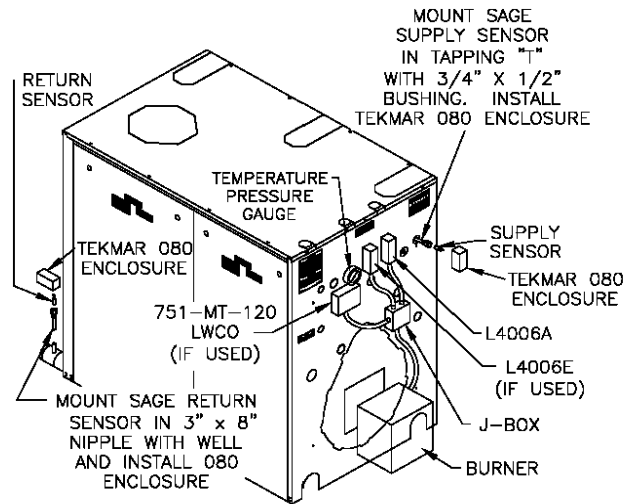

Figure 29(a): SBC2 Sensor and Well Locations
- a. Remove 3" x 8" nipple (806600463) with 1/2" coupling and thread into return tapping using thread sealant. Remove a 1/2" immersion well (80160456) from the SBC Well Parts Carton 107814-01 and thread into 1/2" coupling on 3" x 8" nipple using thread sealant. See Figure 29(a) for sensor installation locations on the supply and return connections to the boiler. Secure 080 enclosure (p/n 8136286) on to well using clip provided.
- a. Remove the 3/4" well from the Sage Boiler Parts Carton and apply thread sealant to the threads. Install the well in tapping J (see Figure 29 and 29(a)).